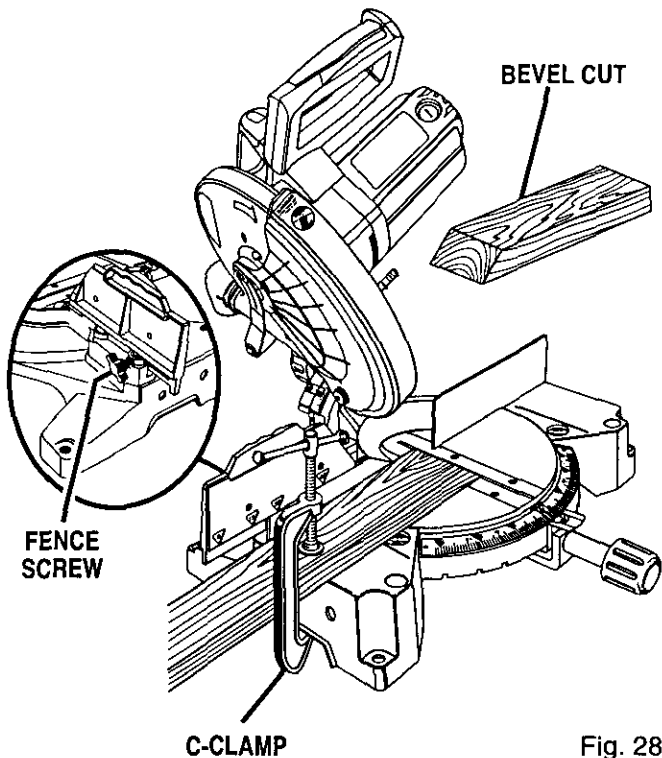

Fig. 28
- Adjustments of the miter fence must be made to correspond to the desired angle of the bevel cut **prior to tilting the saw arm**. The fence is marked for 15°, 30°, or 45°. Loosen the fence screw on the miter fence, slide the fence to the desired position, and retighten the fence screw. *See Figure 28.*
- Grasp the stock firmly with one hand and secure it against the fence. Use the optional work clamp or a C-clamp to secure the workpiece when possible. *See Figure 28.*
- Slowly lower the blade into and through the workpiece. *See Figure 28.*
- Adjustments of the miter fence must be made to correspond to the desired angle of the bevel cut **prior to tilting the saw arm**. The fence is marked for 15°, 30°, or 45°. Loosen the fence screw on the miter fence, slide the fence to the desired position, and retighten the fence screw. *See Figures 28 and 29.*